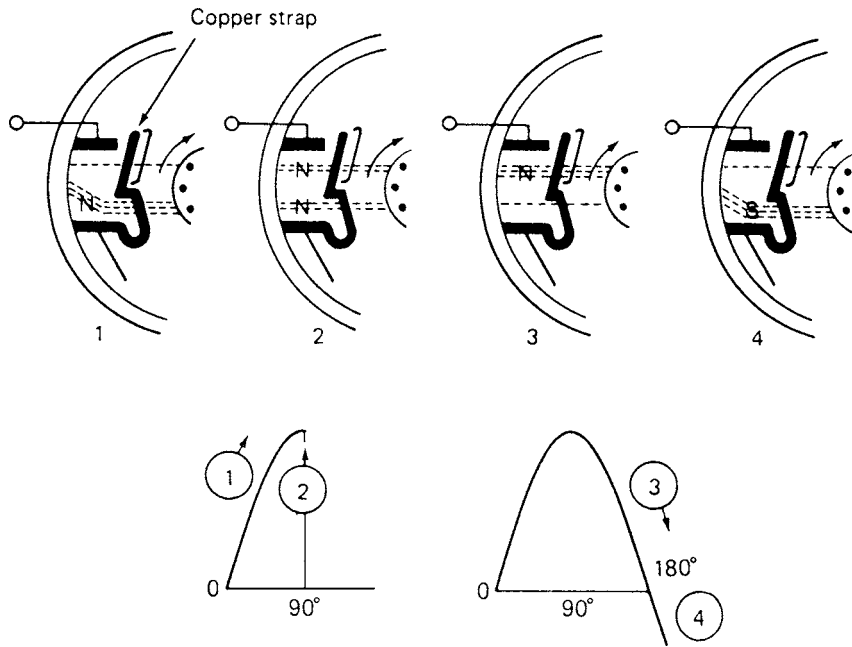

Fig. 5-27 Shaded poles as used in shaded-pole motors.
Portions of the pole-piece surfaces are surrounded by a copper strap called a shading coil. The strap causes the field to move back and forth across the face of the pole piece. In Fig. 5-27 the numbered sequence and points on the magnetization curve are shown. As the alternating stator field starts increasing from zero (1), the lines of force expand across the face of the pole piece and cut through the strap. A voltage is induced in the strap. The current that results generates a field that opposes the cutting action (and decreases the strength) of the main field. This action causes certain actions: As the field increases from zero to a maximum of 90° , a large portion of the magnetic lines of force are concentrated in the unshaded portion of the pole (1). At 90° the field reaches its maximum value. Since the lines of force have stopped expanding, no EMF is induced in the strap, and no opposite magnetic field is generated. As a result, the main field is uniformly distributed across the poles as shown in (2).